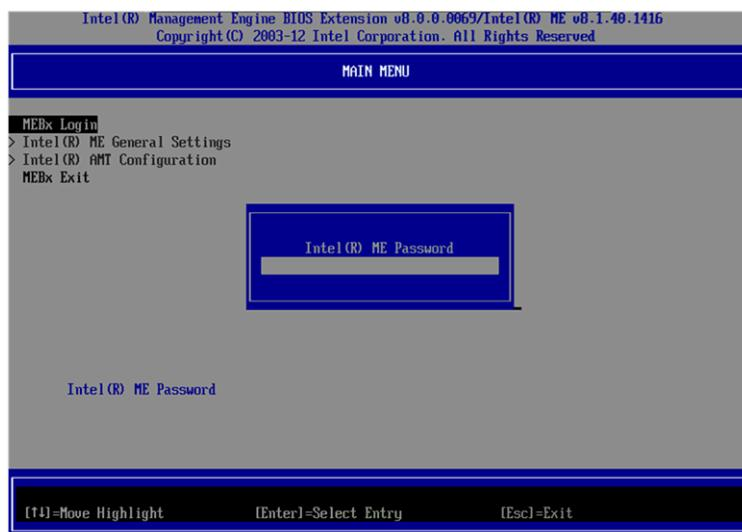

Figure 5.3 Intel AMT Main Menu
- Step 4. Press <F10> and select **Yes** to save your changes and reboot the system. When the system performs its normal boot process the AMT main menu will appear, as shown in *Figure 5.3*.